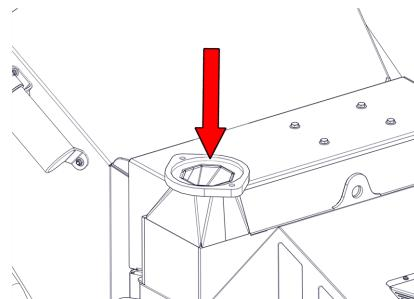

Figure 30 - Discharge flange - tube removed
3. Remove all traces of old grease and dirt from the discharge tube flange and the mounting flange (Figure 30).